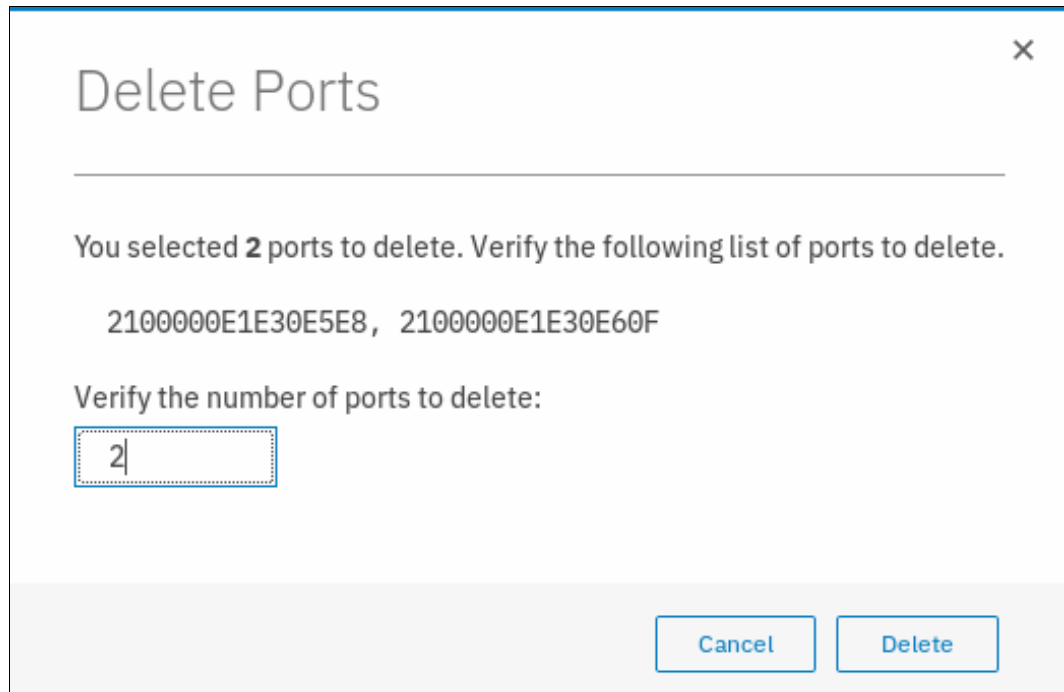

Figure 8-33 Delete port
3. Verify the number of ports and the port to be deleted, as shown in Figure 8-33.